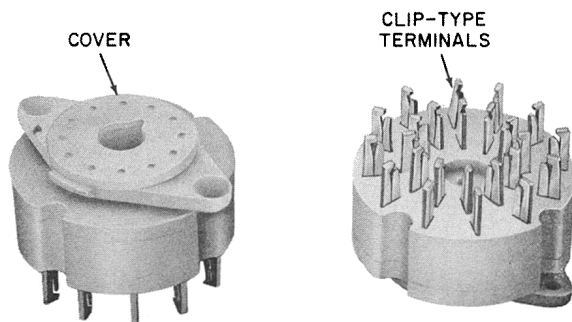

Fig. 13 — 541A Jack
2.14 The 541A jack (Fig. 13, 14, 15) is a two-piece, 12-contact jack intended for flush mounting using a 63A bracket and 16A faceplate.